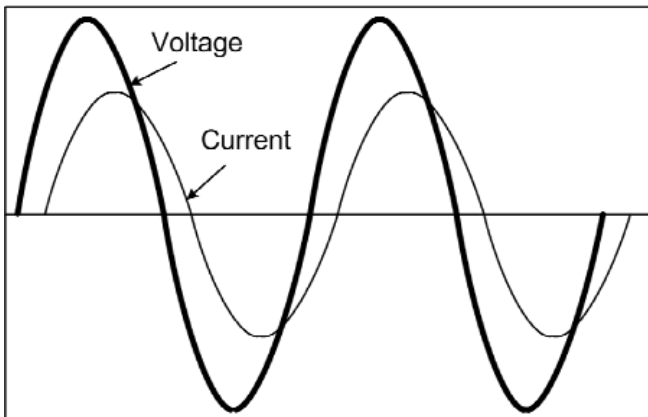

**FIGURE 4.9** Typical commercial building electrical distribution system. (Adapted from Stein and Reynolds)
The majority of large HVAC equipment is powered by alternating current (AC). The alternating part of this term is appropriate: the voltage and current in AC circuits flips back and forth 60 times per second. The primary service enters the building at 120/240 VAC if single phase, or 120/208 VAC, 277/480 VAC, and higher if three phase. The first number is the voltage between any single phase and ground and the second number is the voltage between any two phases. In commercial buildings, electricity enters a building through the primary service feeder (as shown in Figure 4.9) and then passes through a series of transformers, switchboards, and panels before arriving at the load. The HVAC equipment is usually powered directly from the switchboards. If a switchboard is devoted to just HVAC equipment, it is called a *motor control center*.